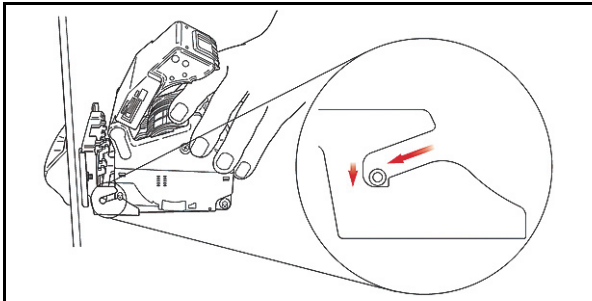

Figure 6-11 Removing Taiko from Bezel Mount
1. Make sure power is not supplied to the Taiko™ Unit intended for calibration, and remove it from its Bezel mounting (See Figure 6-11).